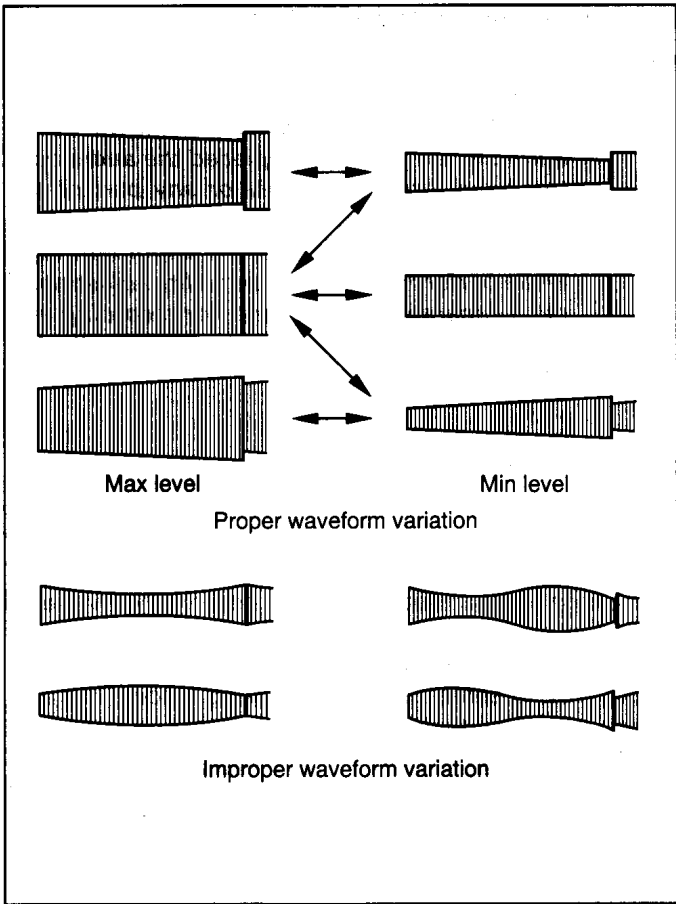

Fig. 2-3-1
- (1) Connect the oscilloscope to TP106(V.PB FM) of the main board assembly and to TP111(D.FF) of the main board assembly for external sync connection.
- (2) Playing the alignment tape (SP), observe the FM waveform.
- (3) Press the channel buttons (▲, ▼) simultaneously during playback to enter the manual tracking mode. (This also brings tracking to the centre.)
- (4) Make sure that there is no significant level drop of the FM waveform caused by the tracking operation, with its generally parallel and linear variation ensured. Perform the following adjustments when required. (See Fig.2-3-1.)